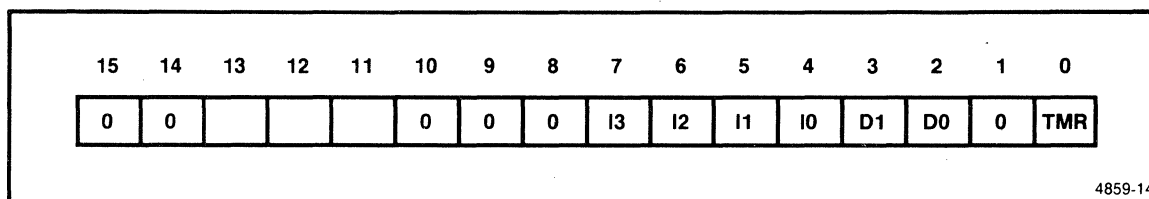
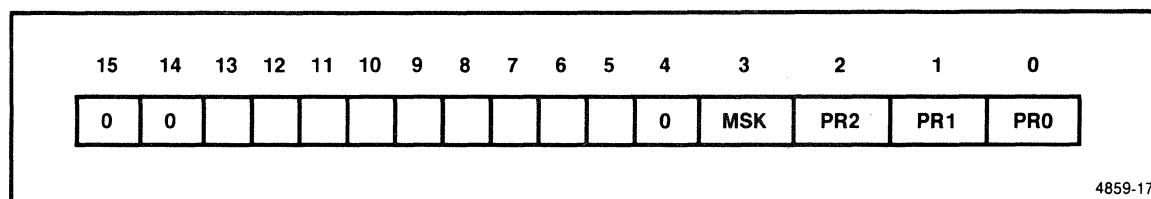

Figure 2-13. In-Service, Interrupt Request, and Mask register formats.
Figure 2-16. Timer/DMA Control register formats.
In-Service Register. The In-Service Register bit format is shown in Figure 2-13. You can read or write to this register. The In-Service Register contains the In-Service (IS) bits for each of the interrupt sources: one Timer source, two DMA sources, and four external interrupt sources. A particular IS bit is set to indicate that an interrupt source service routine is in progress. When an IS bit is set, the Interrupt Controller does not generate interrupts to the CPU when the Interrupt Controller receives interrupt requests from devices with a lower programmed priority level.
The bits in the In-Service Register shown in Figure 2-13 have the following functions:
Interrupt Request Register. The Interrupt Request Register contains the status of interrupt request bits from internal interrupt sources: one Timer source and two DMA channel sources. The Interrupt Request Register bit format is also shown in Figure 2-13. You can read this register to determine the status of the interrupt request bits. The TMR bit (bit 0) is the logical OR of all three timer interrupt requests. Bits D0 and D1 (bits 2 and 3) are the interrupt request bits for the two DMA channels.
Mask Register. The Mask Register is a 16-bit register and contains a mask bit for each internal and external interrupt source. The Mask Register bit format is also shown in Figure 2-13. Setting a bit in the Mask Register that corresponds to a particular interrupt source masks the interrupt source from generating interrupts to the Interrupt Controller. The mask bits in the Mask Register are the same bits (MSK bits) that are in the individual control registers (discussed later in this section). Programming the mask bits in the Mask Register also changes the MSK bits in the individual control registers, and vice versa.
The bit format for these three registers is shown in Figure 2-16. The three lower bits PR2-PR0 represent the programmable priority level of the associated interrupt source. The programmable interrupt levels are 0-7. The MSK bit (bit 3) inhibits an interrupt request from the associated internal interrupt source. The MSK bits in the individual control registers are the same bits that appear in the Mask Register (refer to Figure 2-13).
- Bits 2-0** **PR2-PR0.** The lower three bits in all four registers specify the priority of the external source interrupt. The highest priority is 0 (000) and the lowest priority is 7 (111).
- Bit 3** **MSK.** The mask bit in each register inhibits an interrupt request from the associated external interrupt source. The MSK bits in the individual control registers are the same bits that appear in the Mask Register (refer to Figure 2-13).
Bits 4-0 **S4-S0.** The lower five bits of the EOI Register contain encoded information that specifies the interrupt source vector type for a specific interrupt. The interrupt source vector types are shown in Table 2-13. The vector type set into these bits resets the associated IS bit in the In-Service Register (refer to Figure 2-13). For example, to reset the IS bit for DMA Channel 0, these bits should be set to 01010. The vector type for DMA Channel 0 is 10 (decimal notation).